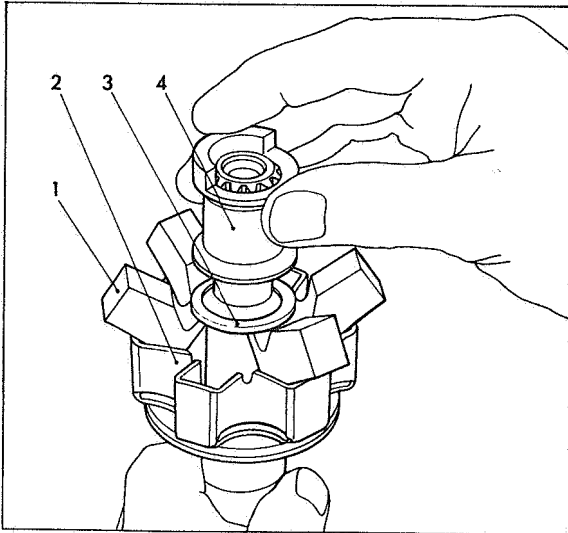

Fig 47 Assembling governor weight components
retainer facing upwards as shown in Fig 47. Place governor weights (1) into governor weight retainer (2) as shown with lips resting against shaft. Assemble thrust washer (3) and thrust sleeve (4) over drive shaft, press down thrust sleeve and fit shaft retainer. Unscrew and remove shaft nut.